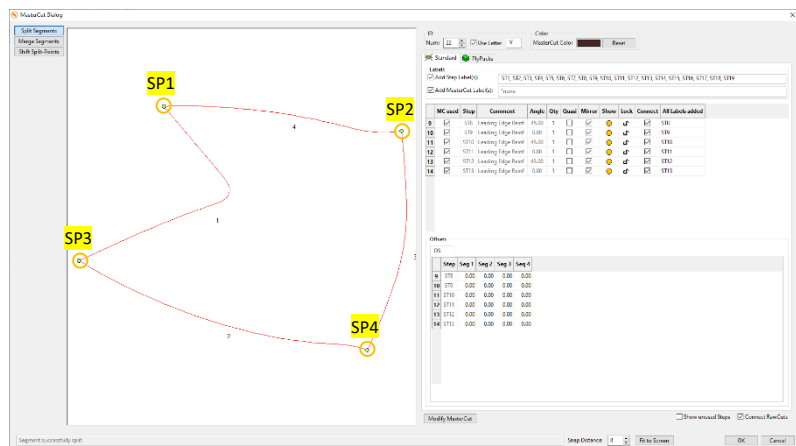

Figure 292
88. Repeat these steps for MasterCut V and split the outer geometry as shown in following Figure 292...